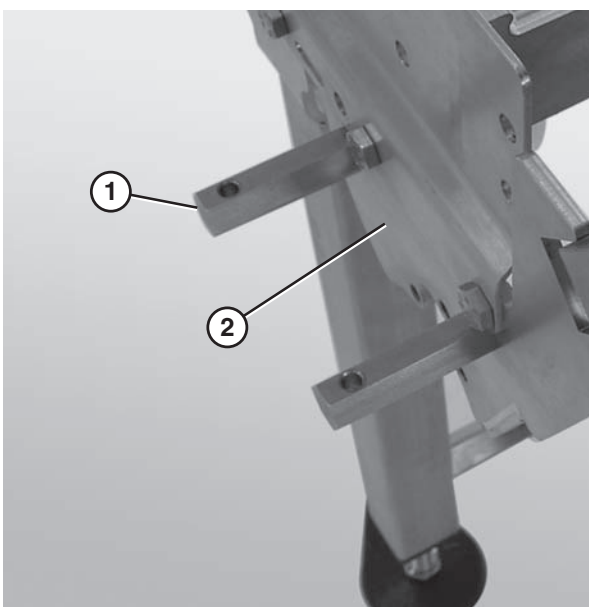

Figure 61
- Remove the gear reducer mounting posts (**Figure 61, item 1**) from the nose bar side plate (**Figure 61, item 2**).